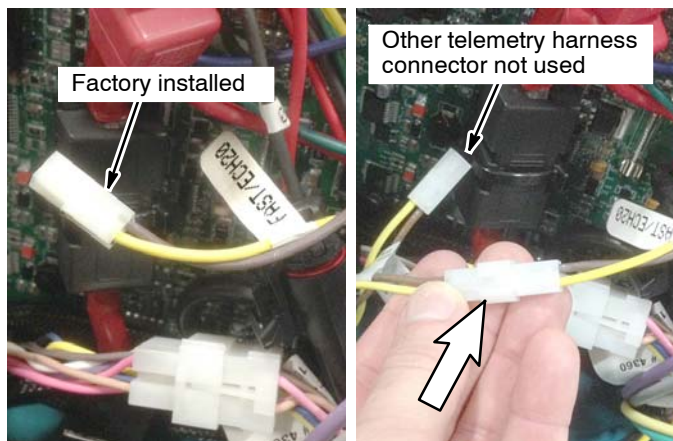

FIG. 16
17. **Machines without ec-H2O:** Locate the factory installed open wire connector labeled FaST/ECH2O, (wires 14A/YEL 22A/BRN) within the circuit board area. Connect the brown/yellow wire connector from telemetry harness into open connector (FIG. 16).